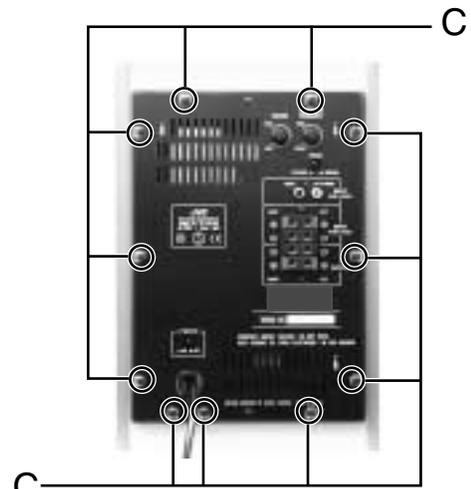

Fig.7
■ **Removing the amplifier box (See Fig.7 and 8)**